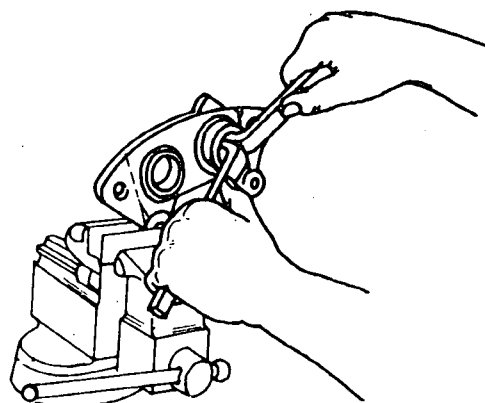

Fig. 4
g) Remove the pistons of the hydraulic system (fig. 4).